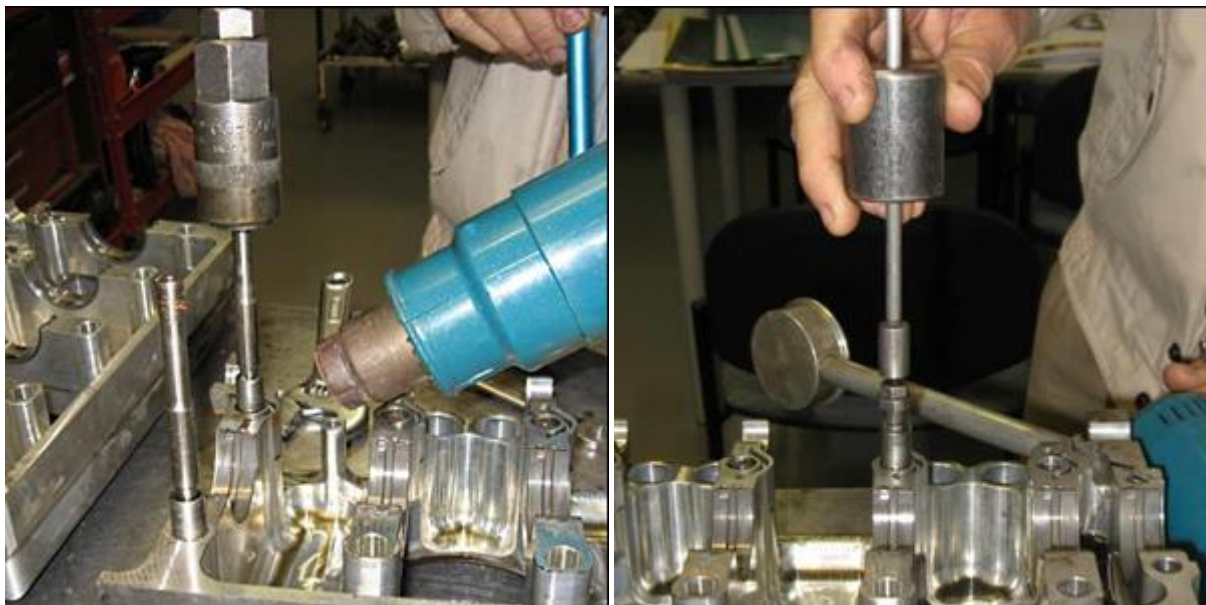

Figure 72 – Removing Studs and Dowels from Crankcase
- If the case is to be surfaced and line-bored then all dowels and studs must be removed from the crankcase. Use a collet type stud remover to unscrew the retained studs from the crankcase. Gentle application of heat will assist the removal as shown above. Extract the dowels from the lower stud holes – in Figure 72 an expanding puller is being used to pull the dowels out of the case. Clean the stud holes with an **M10x1.5 tap** (an old stud with grooves cut in the thread to act as a tap may also be used) and clean and dry the cases.